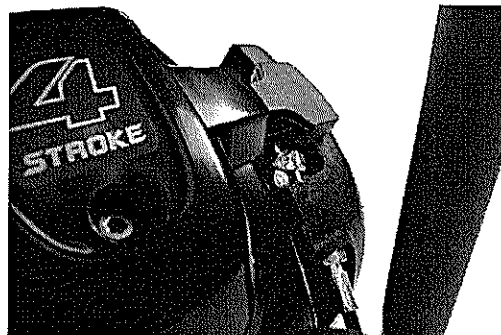

FIGURE 14
36. Stop Hole Digger by releasing throttle control grip. Engine should return to the idle speed position. FIGURE 14